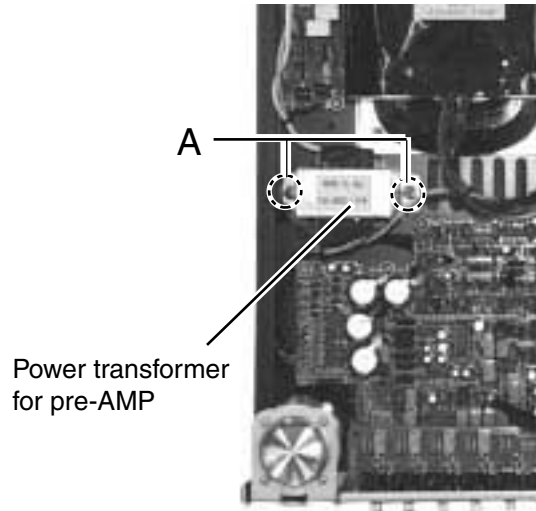

Fig.19
■ **Removing the core transformer for pre-AMP** (See Fig. 19)